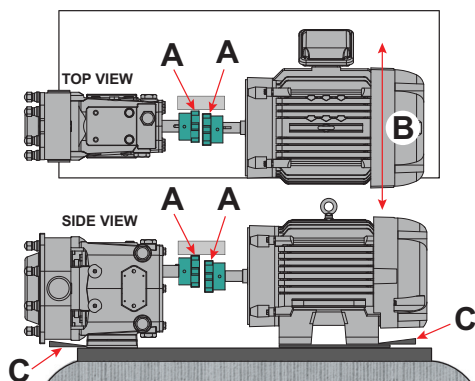

Figure 24 - Check Parallel Alignment
2. Using a feeler gauge at location "A" in Figure 24, determine the direction and amount of movement needed (Figure 24, item B).